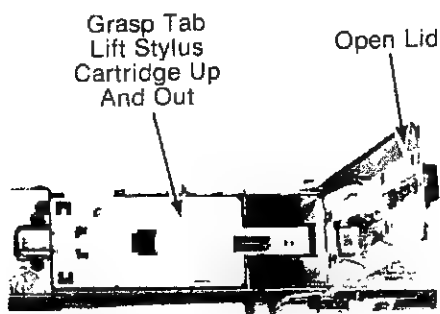

Fig. 2-1. — Stylus Removal Access
2. With pickup arm pushed to the rear as far as possible — open stylus cartridge retaining lid and remove stylus cartridge by lifting it straight up and out of pickup arm assembly (Fig. 2-1). Carefully handle cartridge by grasping sides! **Do Not** touch stylus.